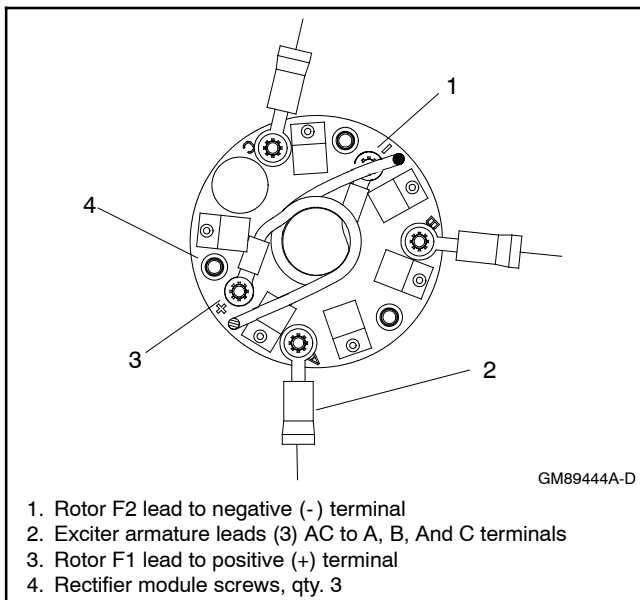

Figure 15-15 Rectifier Module Connections
13. Use screws and lock washers to install the rotor leads F1 and F2 to the rectifier module at the positive (+) and negative (-) terminals and torque to specifications. See Figure 15-15.
14. If the exciter armature is new, locate the exciter armature lead mounting locations on the rectifier module (see Figure 15-15) and cut the exciter armature leads to eliminate slack and crimp-on terminals.